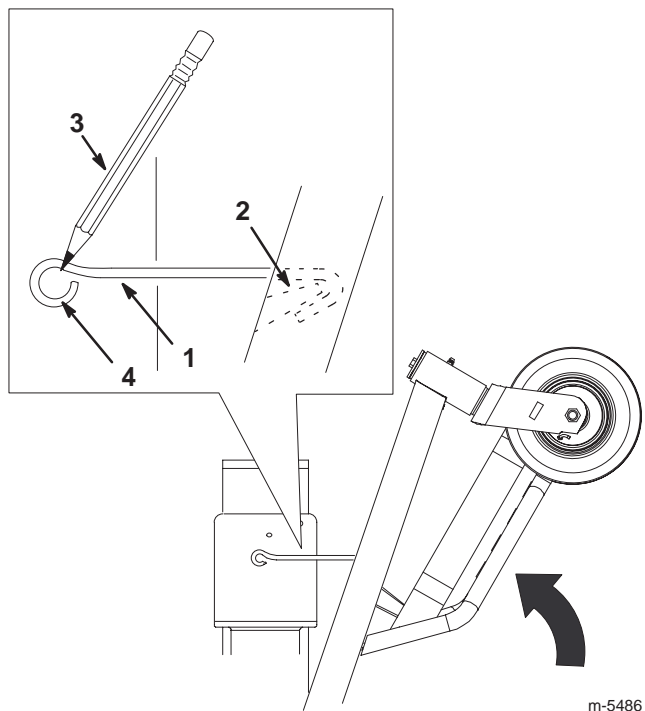

Figure 8
- Pivot the left sulky assembly up until it is near the pulley guard (Fig. 8).
- Position the hook over the toe guard on the sulky and the eye end of the hook against the pulley guard (Fig. 8).